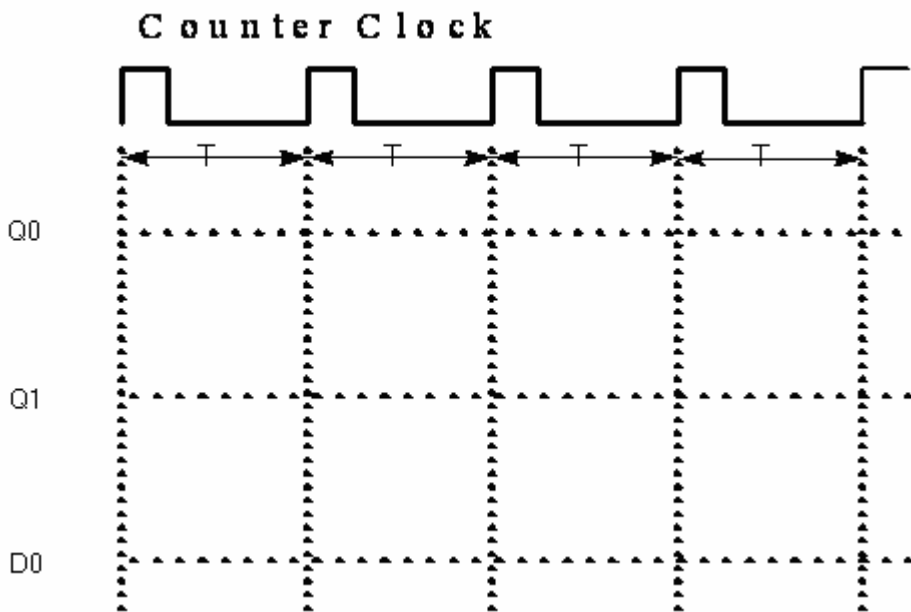

Figure 7.5: Timing Diagram.
- If the counter outputs are designated Q1Q0, you are required to sketch the waveforms of Q0, Q1, and the D0 of the decoder for 4 clock cycles. Use Figure 7.5 for this purpose assuming that Q1Q0=00 after first clock pulse.
- Assuming the counter input clock to have a period **T**, from the timing diagram of Figure 7.5 determine the following: